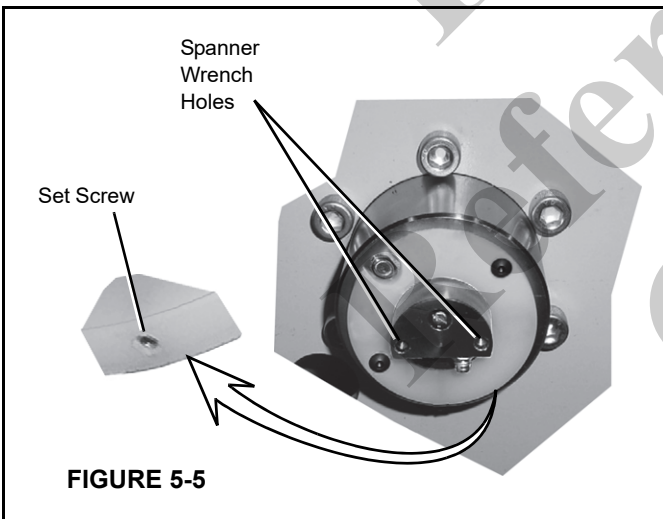

FIGURE 5-5
4. Loosen the set screw on the bottom of the DRI flange (Figure 5-5).